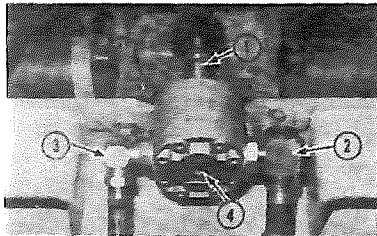
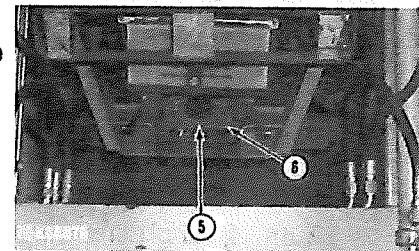

FIG. 6
FIG. 7
5. (External Hydraulic Pump Installation Only): On loaders prior to S/N 51705, the pump mount is a part of the front bracket assembly. After Loader S/N 51704, the front bracket assembly will not provide the front pump mount. If the Loader S/N is after 51704 and the external hydraulic kit does not contain a pump mount assembly, this assembly and mounting hardware can be ordered. Refer to Figure 7 and Page 28. Install fittings into the pump (thread sealing compound or similar sealant required on "male pipe" fittings only. See WARNING below.) Install shaft couplers together with chain, install master link half way thru chains, insert 2 link halves between chains, push master link completely thru chains, install remaining link half and lock master link retainer into place. Remove excess paint from tractor crankshaft spline. **DO NOT DRIVE THESE INTO PLACE.** See Figure 6.